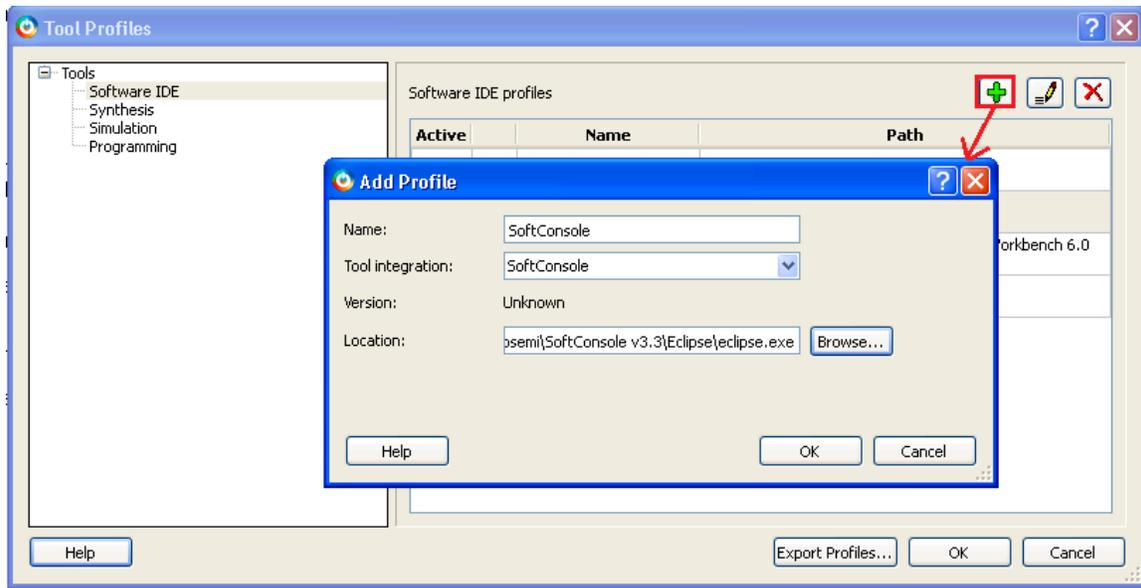

Figure 2 - Selecting SoftConsole as Software IDE
3. Click **Edit Tool Profiles** and add SoftConsole by clicking on Software IDE as shown in Figure 2 . .